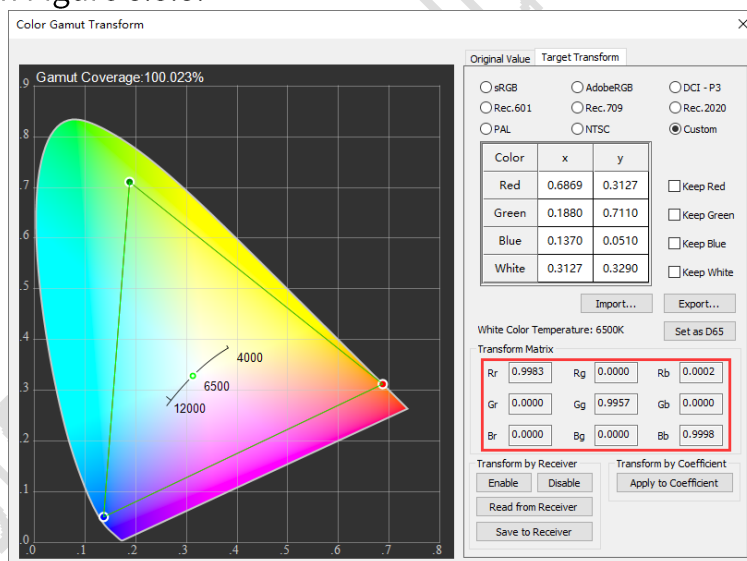

Fig 8.3.3 Generate transform matrix
- Step 3: Click **Approx Value** and select the checkboxes for **Keep Red**, **Keep Green**, **Keep Blue**, **Keep White**, or **Set as D65** based on your actual requirements. This will automatically generate a Transform Matrix, as shown in Figure 8.3.3.